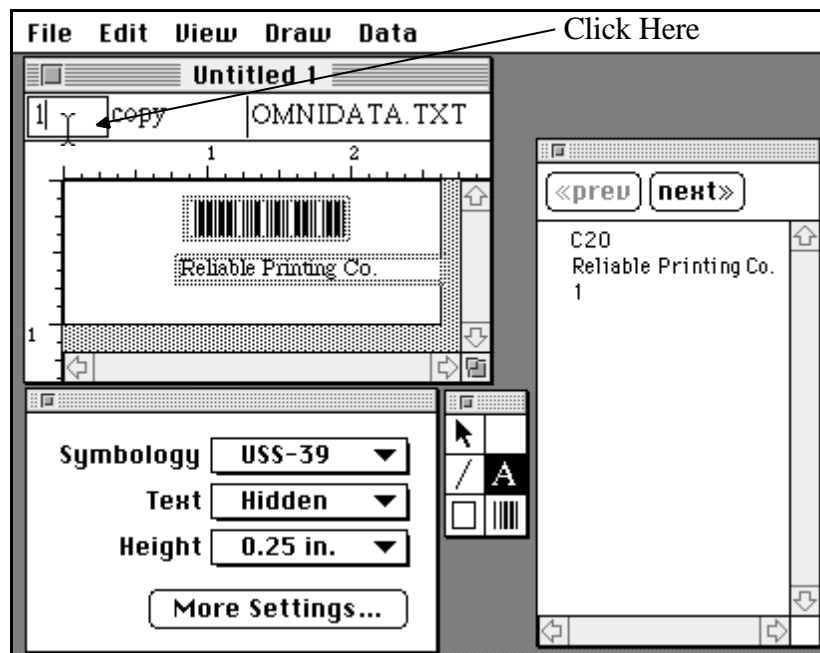

Figure 2-22 Selecting the Copy Control Field
13. You can also use data from the data palette to control the number of copies to print of each label. To attach data to the Copy Control field in your document, select the arrow tool from the tool palette and click on the Copy Control field above the work area in your document. See Figure 2-22.